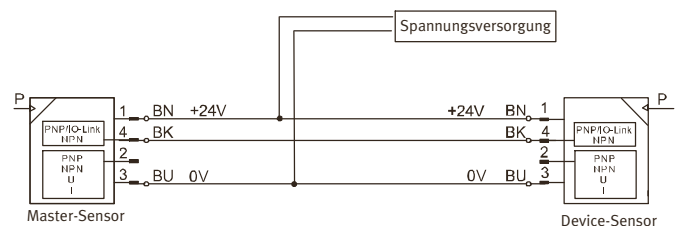

Fig. 6
- The master sensor is connected with the device sensor → Fig.6.